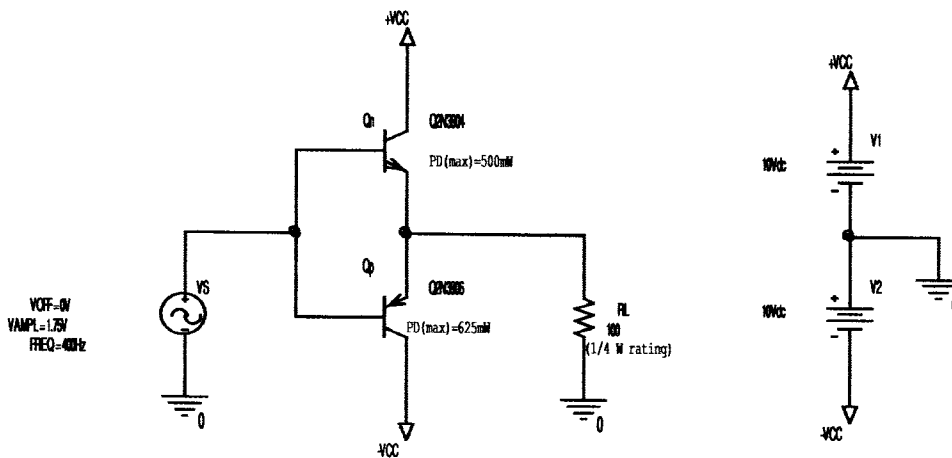

Figure 1, Class B Push-Pull Amplifier
Neglect cross-over distortion for the amplifier in Figure 1 and compute the output power delivered to the 100  $\Omega$  load resistor,  $P_o$ , the total power delivered by the dc supplies,  $P_{CC}$ , the power conversion efficiency,  $\eta$ , and the power dissipated in each transistor,  $P_{D Qn, Qp}$ , for each value of sinusoidal peak output voltage,  $V_{om}$ , given in Table 1. [Note: If  $V_{om}$  (pk value) > 7 V, the power rating for the load resistor (1/4 W) will be exceeded].
1. Build the Class B Push-Pull amplifier shown in Figure 1. Set the signal generator to produce a  $1.75 \text{ V}$  peak ( $3.5 \text{ V}$  peak-to-peak),  $400 \text{ Hz}$  sine wave signal. Display this signal on Ch 1 of the oscilloscope. Observe the amplifier output signal on Ch 2 of the scope. Make a hardcopy of the display noting the cross-over distortion.